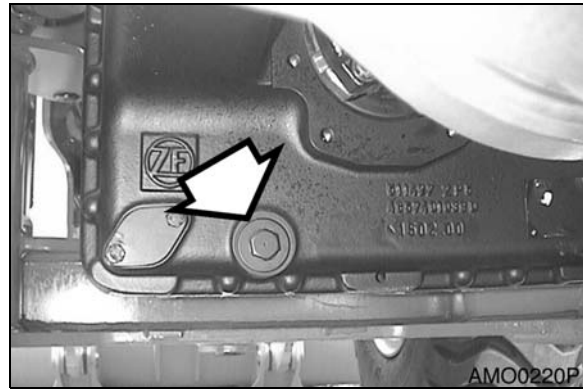

Figure 72
4. Remove drain plug. Allow all transmission fluid to drain into a receptacle. Clean drain plug (Figure 72).